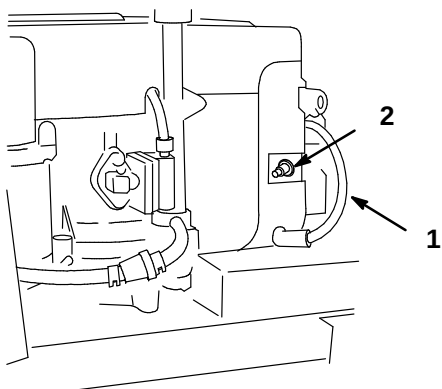

Figure 22
3. Pull the wire(s) off the spark plug(s) (Fig. 22). Now clean around the spark plug(s) to prevent dirt from falling into the engine and potentially causing damage.
3. Push the wire(s) onto the spark plug(s) (Fig. 22).